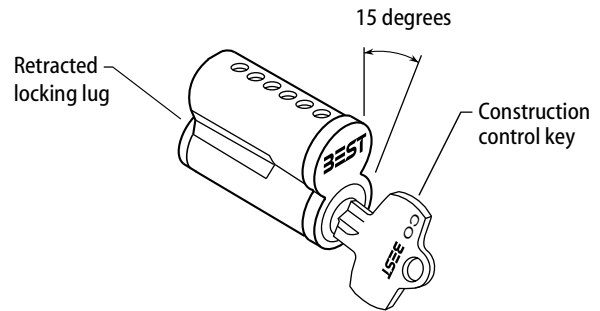

Figure 7 Inserting and turning the control key in the core.
- 2 Insert the construction control key (stamped "CO") into the core and turn the key 15 degrees clockwise. See Figure 7.